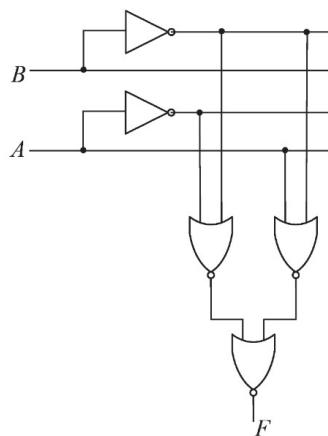

Fig. 3.9
22. The logic block shown in Fig. 3.9 has an output  $F$  given by \_\_\_\_\_.